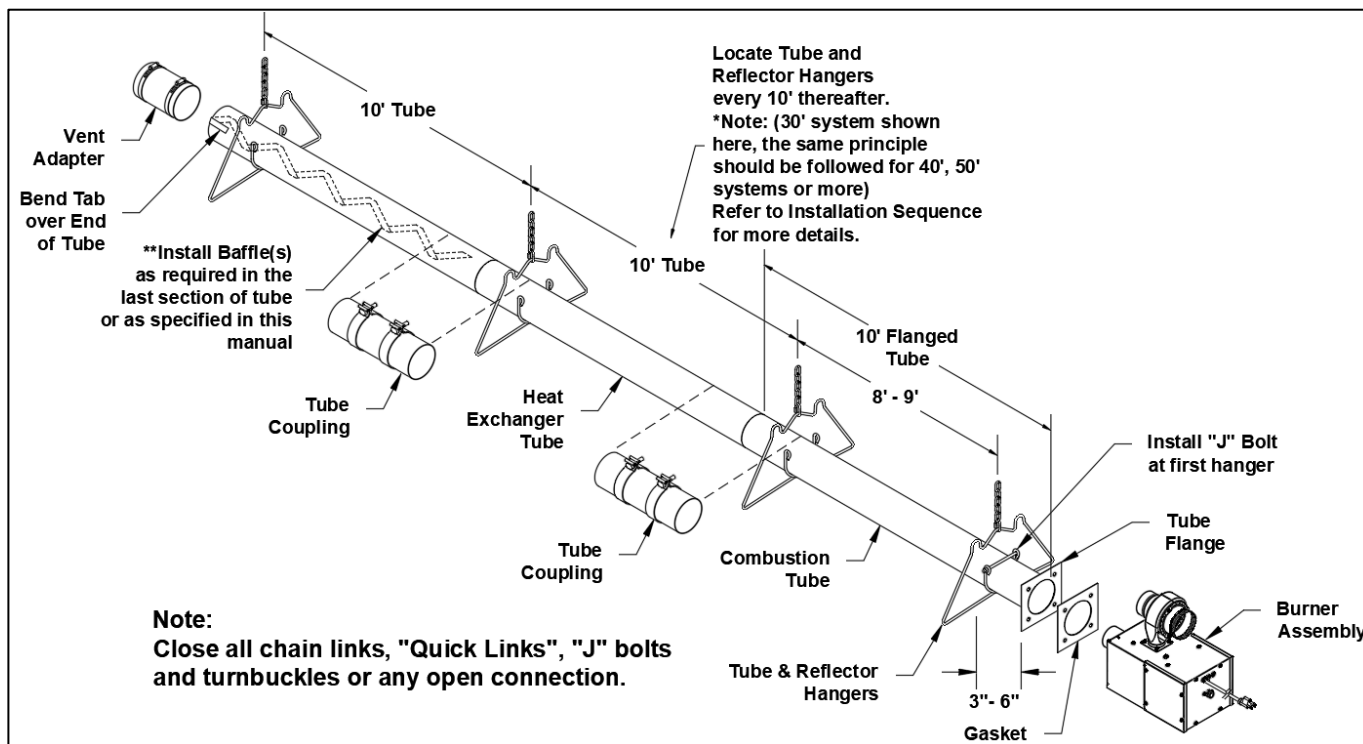

Figure 11: Overall view of Tubes and Reflector Hangers
- A general overall view of the tubes and reflector hangers are shown in Figure 11 below